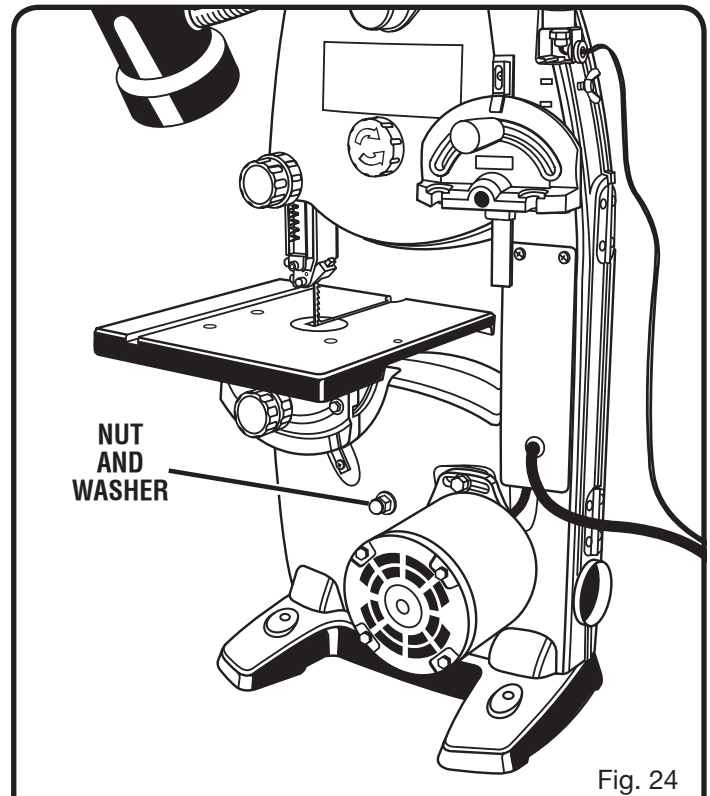

Fig. 24
See Figures 24 and 25.
- Remove the nut and washer from the middle of the saw housing. See Figure 24.